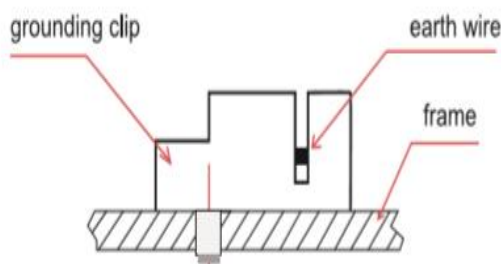

figure 2
- As shown in the **figure2**, the grounding clip assembly consists of a slider, base, and self-captivating thread-cutting screw or 8-32 screw and hex nut. The grounding clip accepts solid uninsulated copper wire sizes